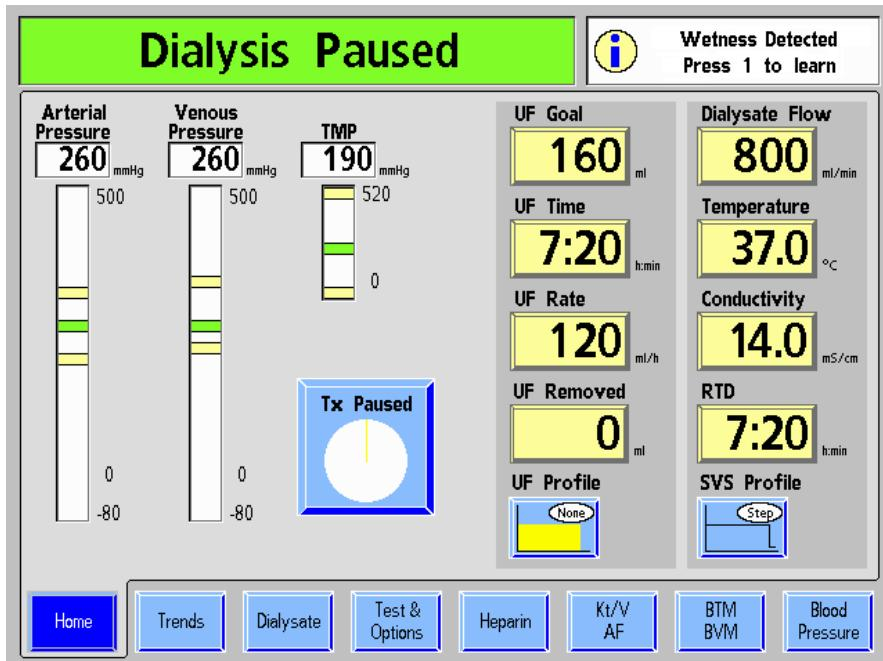

Figure 2 – Home screen: Wetness Detected #1
2. The Wireless Wetness Detector will send a wetness signal to the machine. Make sure that an audible alarm sounds and the Status Bar turns red and displays the message “Wetness Detected #1” (see Figure 2).